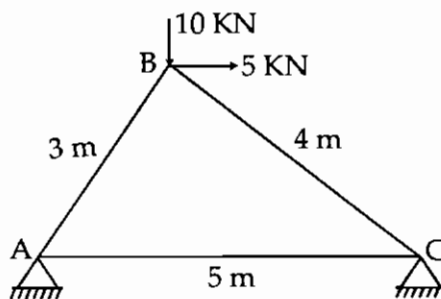

Figure 7 [ Q. No. 4 (C) ]
- (C) Using the stiffness approach of analysis, analyse the pin-jointed truss shown in Figure 7. Axial rigidity of all the members is same. **13**